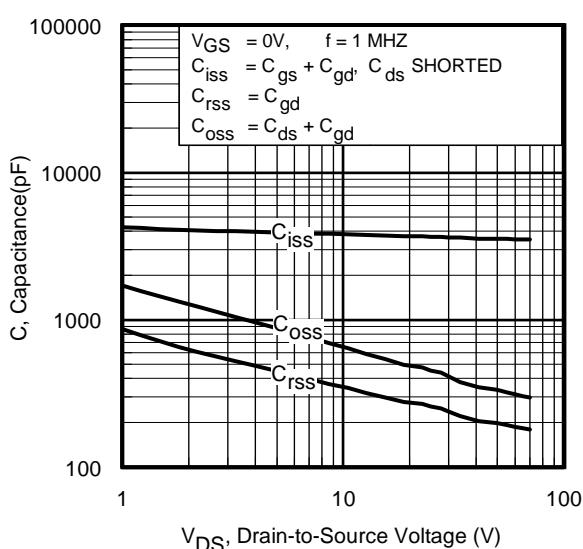

Fig 5. Typical Capacitance vs. Drain-to-Source Voltage
| $C_{\text{oss eff. (TR)}}$ | Effective Output Capacitance (Time Related)⑥ | — | 520 | — | — | $V_{\text{GS}} = 0\text{V}$, $V_{\text{DS}} = 0\text{V}$ to 60V ⑥, See Fig. 5 |